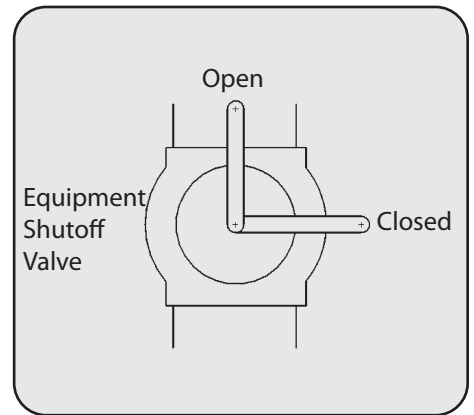

Figure 13
1. Close equipment shutoff valve. See Figure 13.
3. Open equipment shutoff valve. See Figure 13.